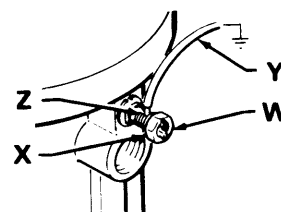

Fig 1
To ground the pump, loosen the grounding lug locknut (W) and washer (X). Insert one end of a 12 ga (1.5 mm2) minimum ground wire (Y) into the slot in the lug (Z) and tighten the locknut securely. See Fig 1. Connect the other end of the wire to a true earth ground. Refer to page 9 to order a ground wire and clamp.